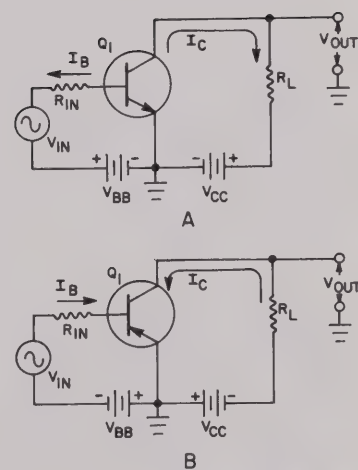

Figure 1
Probably the most often used transistor amplifier configuration is the **COMMON-EMITTER (CE) AMPLIFIER**. This type of amplifier is shown in Figure 1. An NPN transistor is shown in Figure 1A while Figure 1B shows a PNP circuit. The only differences between the two circuits are the direction of current and the polarities of the supply voltages. In both circuits, the emitter junctions must be forward biased, and the collector junctions must be reverse biased. V_{BB} provides the forward bias for the emitter junction and V_{CC} provides the reverse bias for the collector junction.
An increasing positive voltage at the input of an NPN transistor in a common-emitter circuit increases the forward bias of the emitter-to-base junction. An increasing positive voltage at the input of a PNP transistor (in a similar circuit) causes a reduction of forward bias, or possibly even a reverse bias of the emitter-to-base junction. Don't forget the basic difference in current direction between the NPN and the PNP types, as shown by the current arrows in Figures 1 through 3.
The base bias of a transistor is defined as the value of the base current under zero signal or dc conditions. The dc voltage which causes base bias current is called the base bias voltage. The term bias is also sometimes applied to the collector supply voltage. However, we shall use the term "bias" to describe the value of no-signal base current or voltage. In Figures 1 through 3, batteries were used to supply bias voltages. V_{BB} supplies the base bias voltage, and V_{CC} is the collector supply. For proper operation, the transistor must be biased so that the emitter junction is forward biased and the collector junction is reverse biased. Let us assume in this discussion of bias circuits that the signal source has a large series capacitor in its output so that there is no dc flow through the input connections of the amplifiers, and the bias voltages are not affected by the signal source.
The separate supplies shown in Figures 1 through 3 provide a means of obtaining the correct bias. However, separate supplies are costly, and it is more convenient to use one supply for both the base bias and the collector supply. The circuit of Figure 7 provides a simple means of obtaining base bias from the collector supply. In this common-emitter amplifier, resistor R_1 is the bias resistor. R_1 is connected between the negative terminal of the collector supply battery, V_{CC} , and the base of Q_1 .